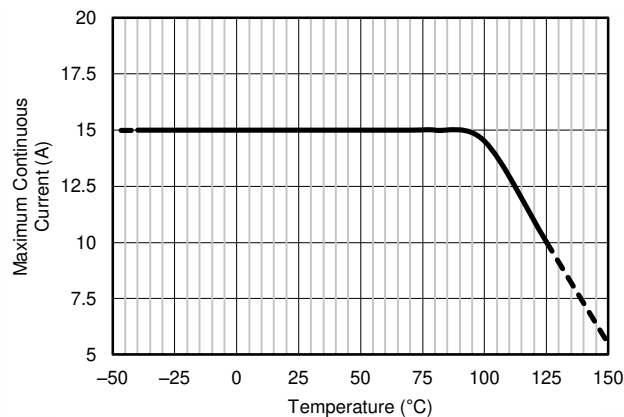

Figure 7-1. Maximum Current vs Temperature
(3) The supply voltage range maximum is 36 V, but the reference voltage cannot be higher than 18 V.
(4) See Figure 7-1 and the *Layout* section for additional information on the current derating and layout recommendations to improve the current handling capability of the device at higher temperatures.
(5) See the *Integrated Shunt Resistor* section for additional information regarding the integrated current-sensing resistor.
(6) System gain error includes amplifier gain error and the integrated sense resistor tolerance. System gain error does not include the stress related characteristics of the integrated sense resistor. These characteristics are described in the *Shunt Resistor* section of the *Electrical Characteristics* table.
(7) The internal shunt resistor is intended to be used with the internal amplifier and is not intended to be used as a stand-alone resistor. See the *Integrated Shunt Resistor* section for more information.
External factors (such as ambient temperature, external air flow, and PCB layout) may contribute to how effectively the heat developed from the current flowing through the total package resistance may be removed from the device. Under the conditions of no air flow, a maximum ambient temperature of +85°C, and 1-oz. copper input power planes, the INA250-Q1 device can accommodate continuous current levels up to 15 A. As shown in Figure 7-1, the current handling capability is derated at temperatures above the +85°C level with safe operation up to 10 A at a +125°C ambient temperature. With air flow and larger 2-oz. copper input power planes, the INA250-Q1 may safely accommodate continuous current levels up to 15 A over the entire –40°C to +125°C temperature range.